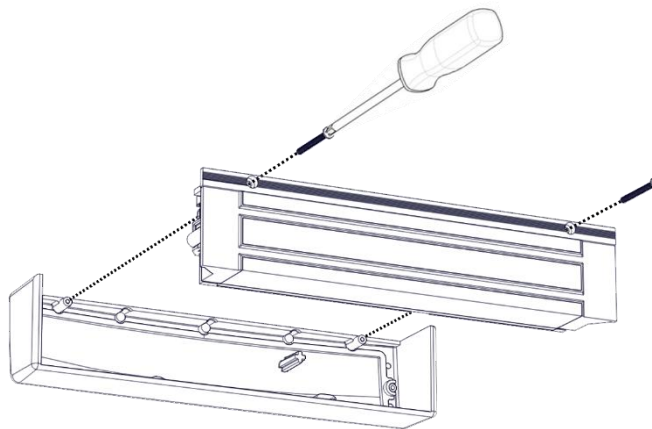

Figure 27. Removing the Cover Screws
1. Using a Phillips screwdriver, REMOVE the two (2) screws securing the cover, as shown in Figure 27, "Removing the Cover Screws."